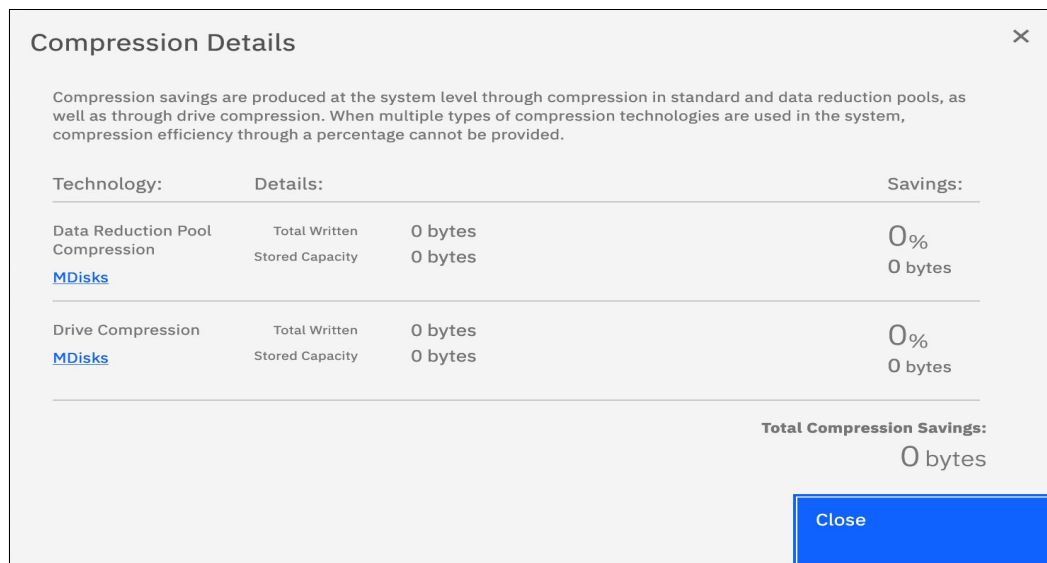

Figure 4-7 Compression Savings dashboard report
- ▶ As the savings from DRP (compression and deduplication) provided at the DRP level, as shown in Figure 4-7.